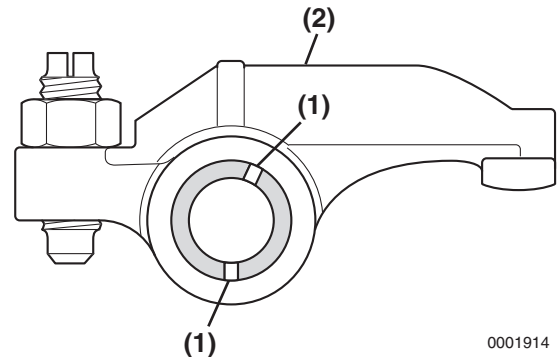

Figure 4-2-31
Ensure the lubrication holes in the rocker arm shaft (**Figure 4-2-31, (1)**) are oriented correctly with respect to the rocker arms (**Figure 4-2-31, (2)**).